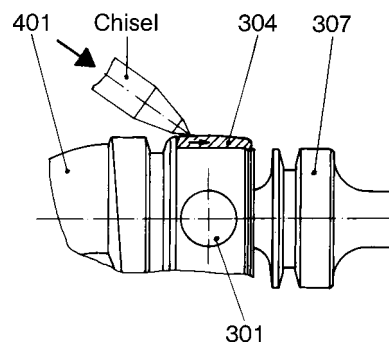

Fig. 3: Removal of the retaining sleeve
- Lift cover sleeve (308) by means of a screw driver and pull-off axially in the direction of the coupling rod.
- Drive retaining sleeve (304) over the flange of the coupling rod (307). While doing so, do not twist the coupling rod (307). Please see Fig. 3.